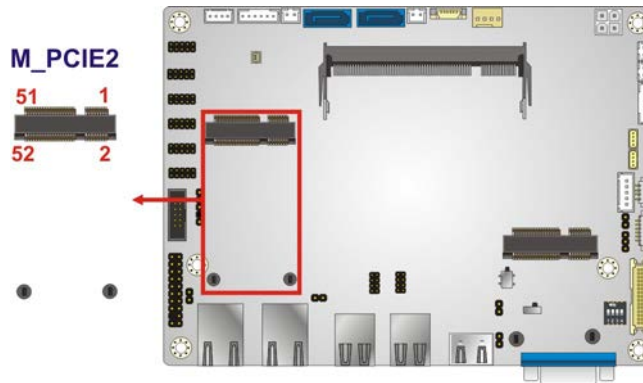

Figure 3-17: PCIe Mini Card Slot Location
**CN Location:** See **Figure 3-17**